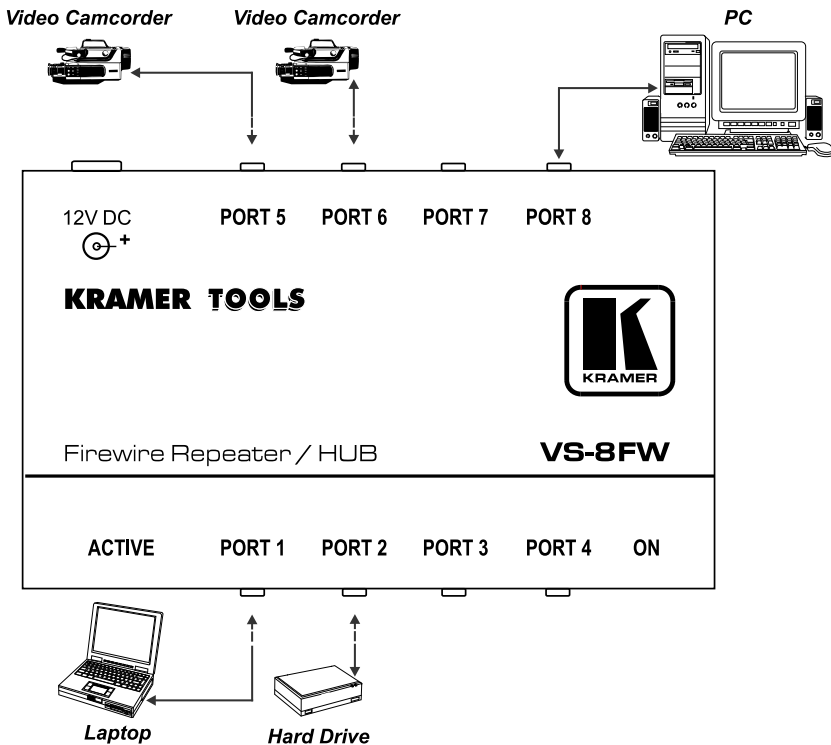

Figure 4: Connecting the VS-8FW FireWire Repeater / HUB
To use the **VS-8FW**¹ *FireWire Repeater / HUB*, as the example in Figure 4 illustrates, do the following²:
2. Connect the 12V DC power adapter to the power socket and connect the adapter to the mains electricity (not shown in Figure 4). The ON red LED lights.